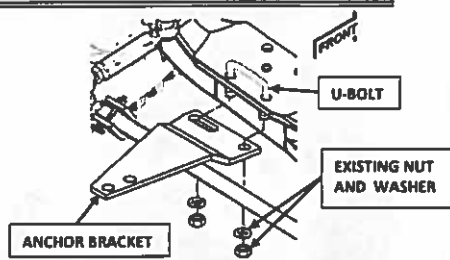

FIGURE 2. ANCHOR BRACKET INSTALL TO AXLE SUSPENSION U-BOLT
- Using a socket wrench with a 1-1/8-inch socket, remove two existing nuts (and washers if installed) from axle spring rear U-bolt on driver's side of front axle assembly. If nuts are difficult to remove, apply penetrating oil lubricant and re-attempt removal using a breaker bar or impact wrench for assistance (Figure 2).
- Using a torque wrench with a 1-1/8-inch socket, install and secure Anchor Bracket to existing axle spring rear U-bolt with two existing nuts (and washers if previously installed) that were removed in step 2, and torque nuts to a recommended 250 foot-pounds. Be sure to double check your vehicle manufacturer torque specifications of nuts (Figure 2).